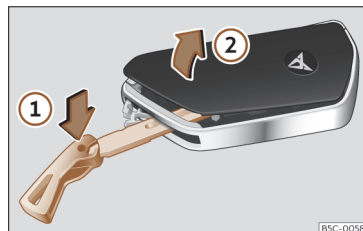

Fig. 69 Vehicle key: open the battery compartment cover.
- Insert the key blade into the slot >>> Fig. 69, press it in the direction of the arrow ① and detach the cover by levering it ②.